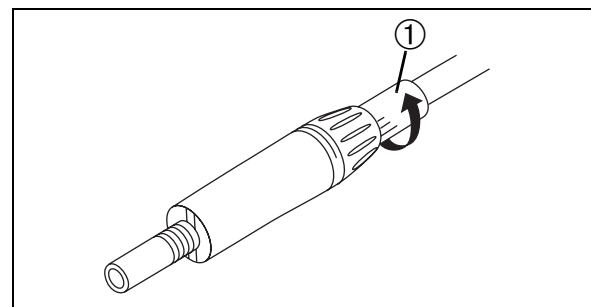

Fig. 41
You can meter the amount of spray water by turning the regulator (1) (Fig. 41) to the left or right. The regulator should be opened as far as possible during normal operation (in the locked position).